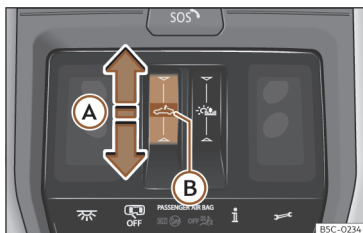

Fig. 88 On the headliner: glass roof button.
- Automatic movement: slide your finger back over the functional area  >>> **Fig. 88 (A)**.
- Before approx. 5 seconds after activation of the anti-trap function, slide your finger forward over the functional area ➡ >>> Fig. 88 (A) and keep pressed until the sunroof is fully closed.